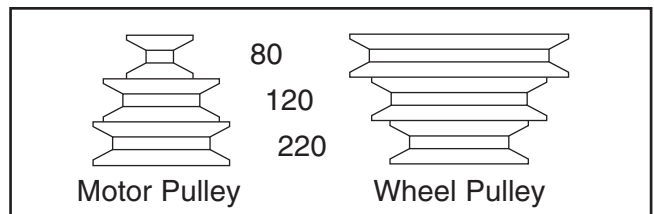

Figure 28. V-belt positions in FPM.
3. Slacken the V-belt and position on the pulley for the desired FPM (see **Figure 28**).